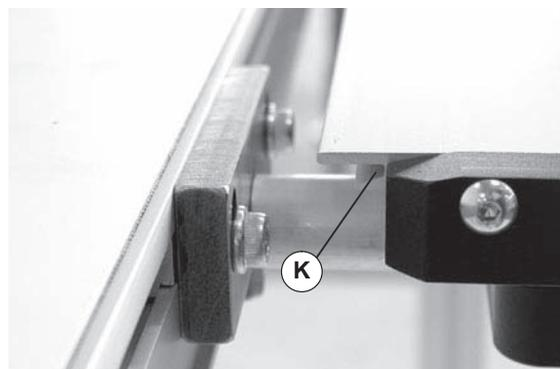

Figure 9
8. Orient table such that pocket (Figure 9, item K) is toward the conveyor.